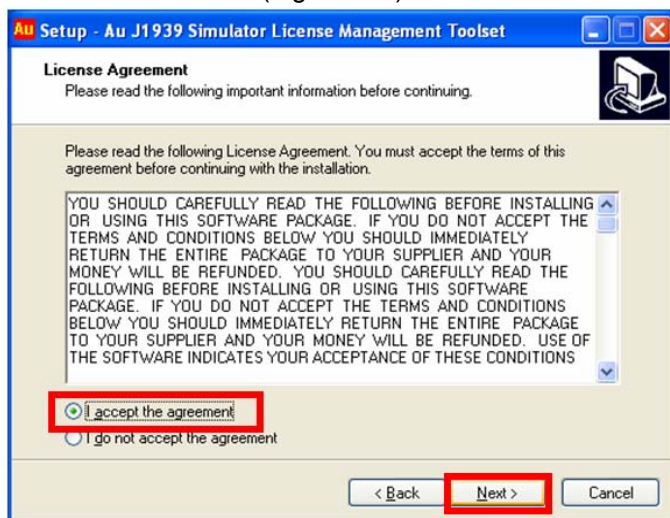

Figure B-2
2. "Welcome to Au J1939 simulator License Management Toolset Setup wizard" window shows up, click "next", as shown in Figure B-2